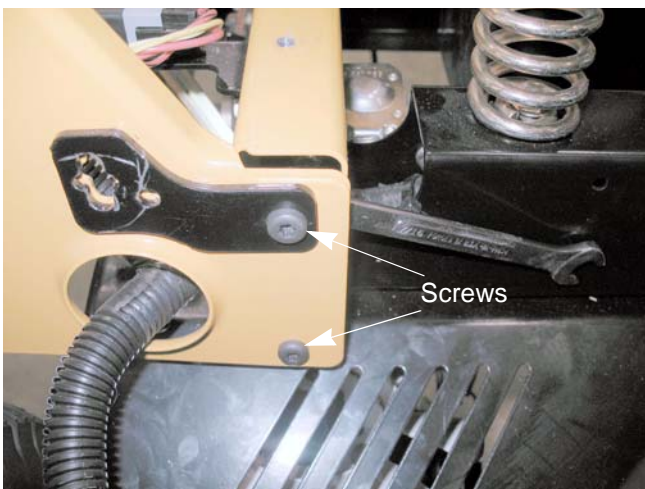

Figure 4.13
16. Remove the two screws that hold the rear of the control console to the seat box assembly using a T-30 torx driver and a 7/16" wrench. See Figure 4.13.